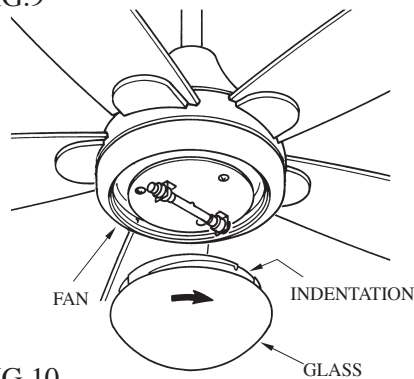

FIG.10
3. Position the indentations in the outer rim of the glass shade so that they line up with the tabs on the inside surface of the fan light fixture rim. Carefully lift the glass shade up inside the light fixture as far as it will go. Rotate the shade in a clockwise direction until it is held tightly in place by the three tabs (see FIG 10).